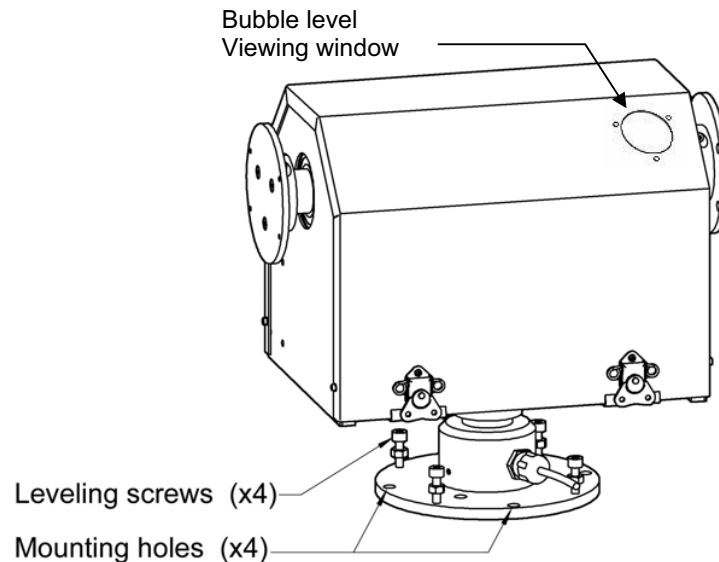

Figure 4.8: Levelling 2AP without Tripod.
- The standard bottom flange can function as levelling unit, if the 2AP was purchased without the optional Tripod Floor Stand. With the main mounting bolts loosened off slightly, adjust the levelling screws to move the bubble into the center of the level. Once the 2AP is level, secure the levelling screws in place with the locking nuts and tighten the main mounting bolts to ensure there will be no movement during operation, see figure 4.8.